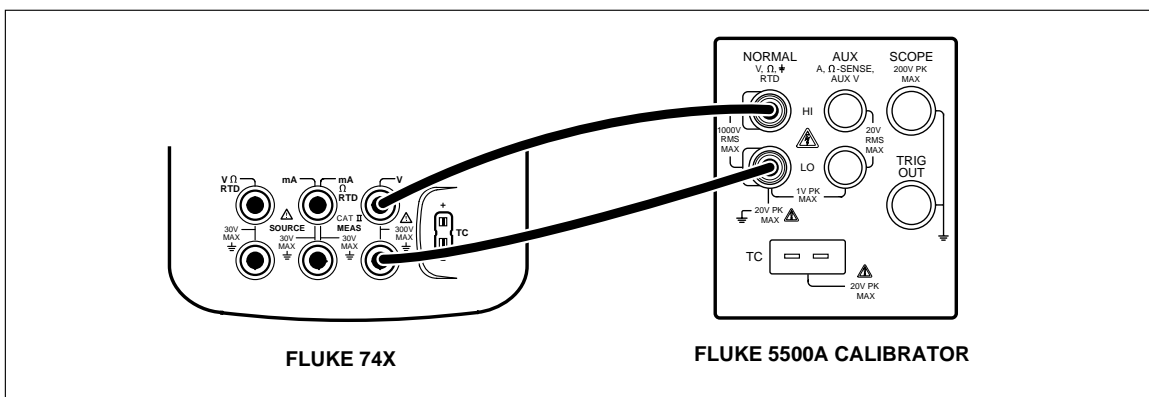

Figure 5. Frequency Measurement Verification Connections
1. Connect the UUT as shown in Figure 5.